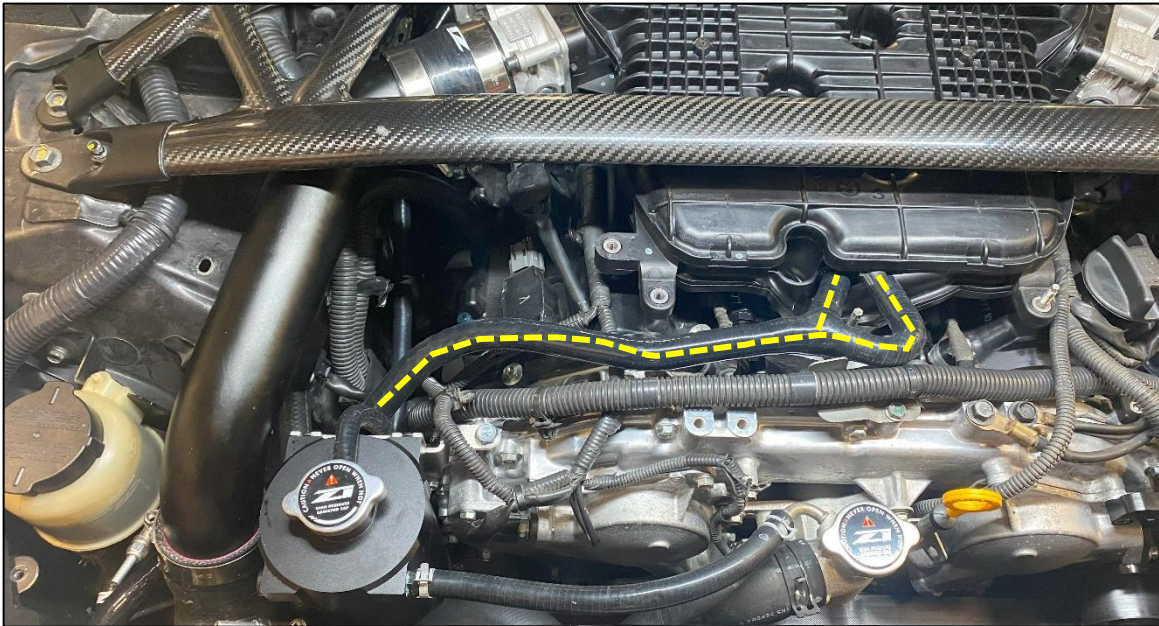

Figure 6
10. Locate the Return Line Hose. Place the Forked end on the (2) two Intake Manifold Ports. Run the other end of the Hose under the Intake Tube and towards the Catch Can. *Figure 6.*